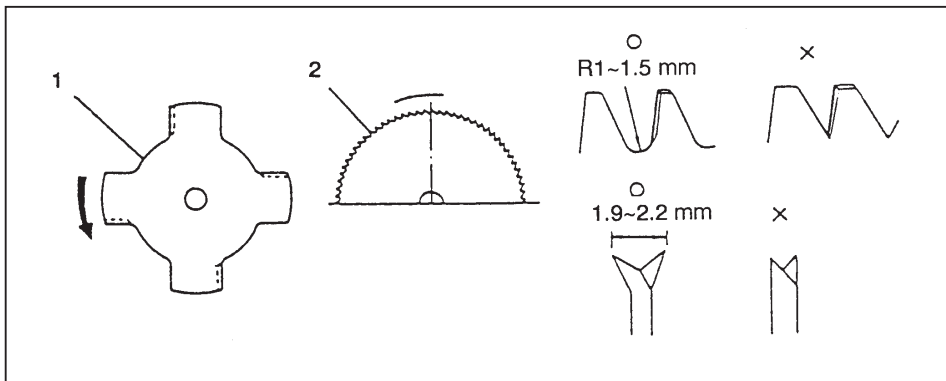

Fig. 3-6
**Blade (Fig. 3-6) (If so equipped)**